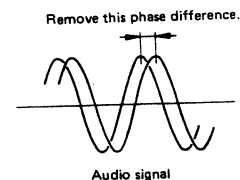
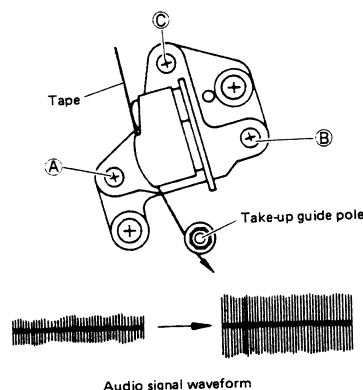

Fig. 2-23 Audio signal phase adjustment
Fig. 2-24 Audio/control head adjustment
3. While observing the output signals, turn screw (C) (Fig. 2-24) for maximum waveforms and absence of phase difference (Fig. 2-23).